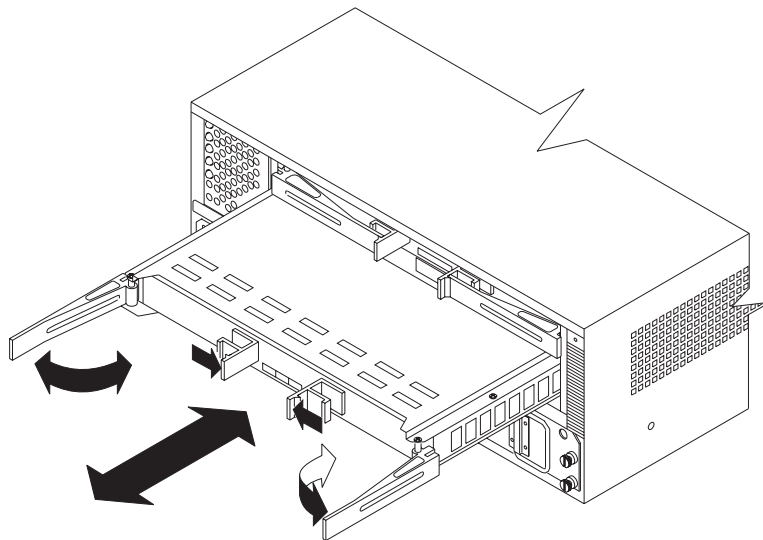

Figure 12. Removing and Installing a Controller CRU
4. Remove the failed controller (Figure 12).
6. Install the new controller CRU (Figure 12).